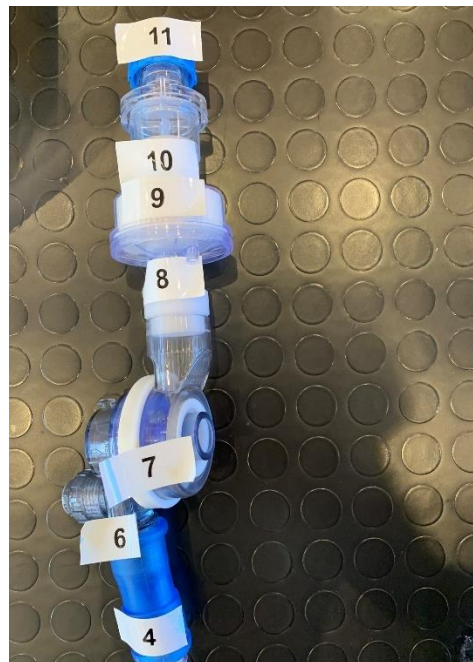

Figure 4.17: ABU PEEP valve group assembling part 4
- 10- Connect ABU PEEP-filter adapter (10) to the ABU PEEP valve (11) as shown in Figure 4.17.